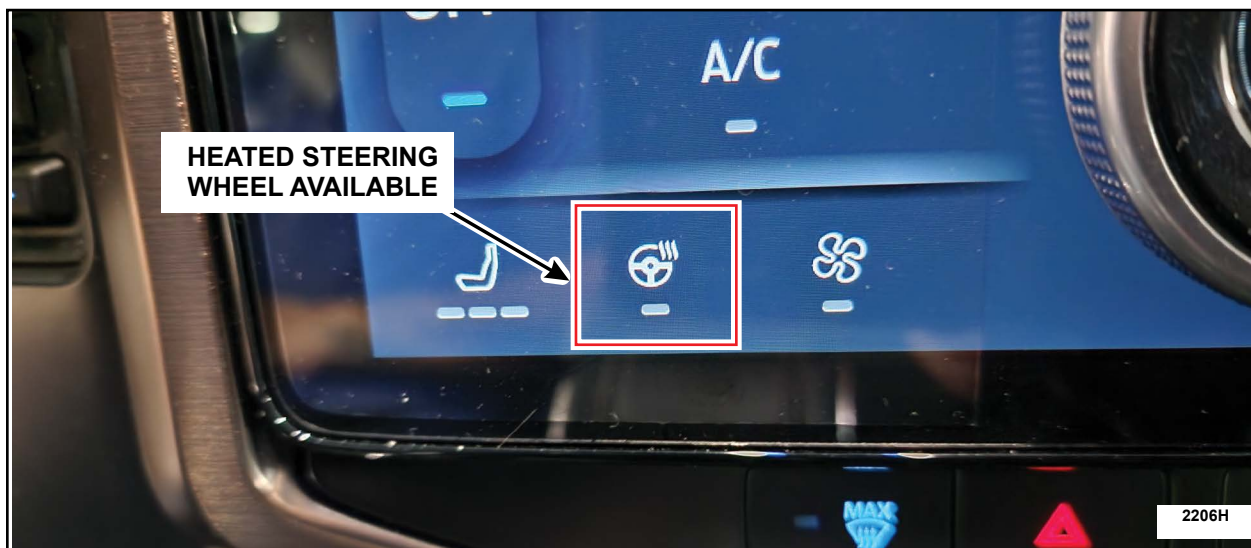

FIGURE 2
10. Verify that the soft button is available on the display screen. See Figure 2.